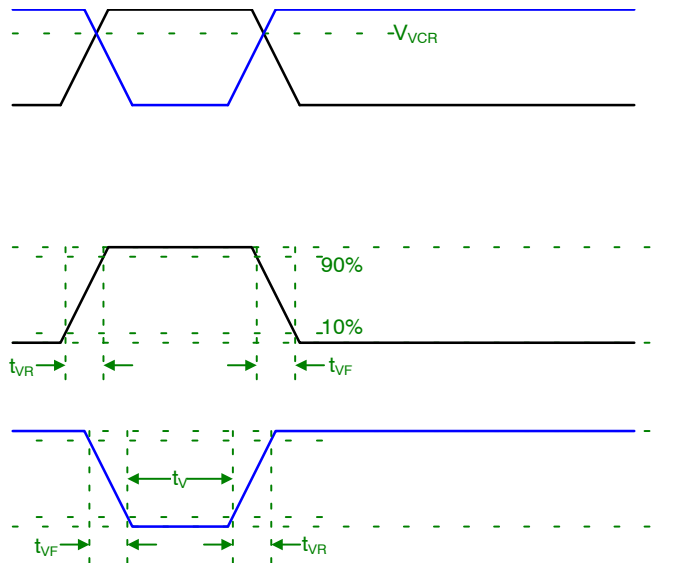

Figure 22. VCCD Clock Rise Time, Fall Time and Edge Alignment
1. Refer to Figure 22: VCCD Clock Rise Time, Fall Time and Edge Alignment.